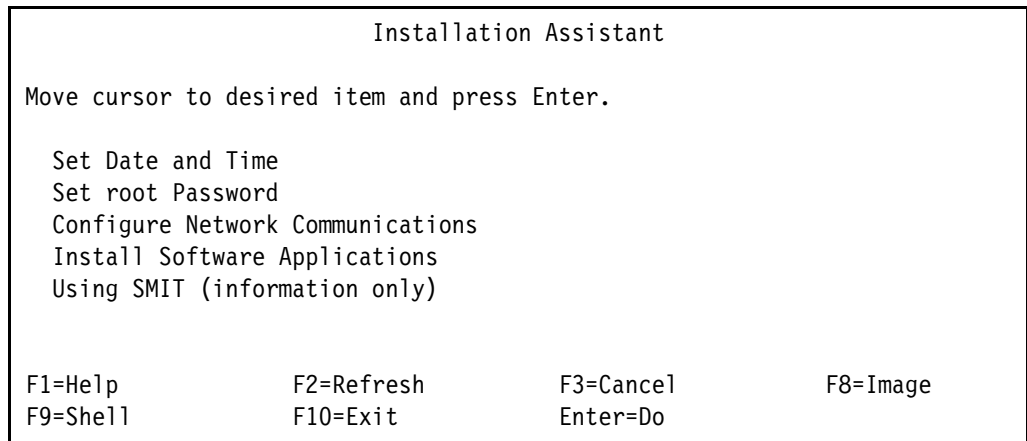

Figure 2-130 Post installation menu - Installation Assistant
- e. In the Installation Assistant main menu, select **Set Date and Time** (Figure 2-130).